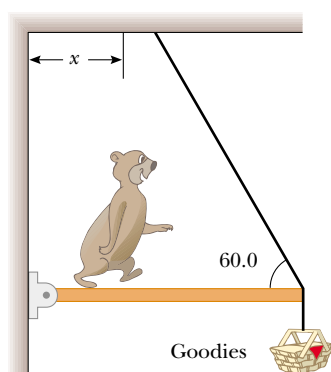

Figure P12.43
43. A hungry bear weighing 700 N walks out on a beam in an attempt to retrieve a basket of food hanging at the end of the beam (Fig. P12.43). The beam is uniform, weighs 200 N, and is 6.00 m long; the basket weighs 80.0 N. (a) Draw a free-body diagram for the beam. (b) When the bear is at $x = 1.00$ m, find the tension in the wire and the components of the force exerted by the wall on the left end of the beam. (c) **What If?** If the wire can withstand a maximum tension of 900 N, what is the maximum distance the bear can walk before the wire breaks?